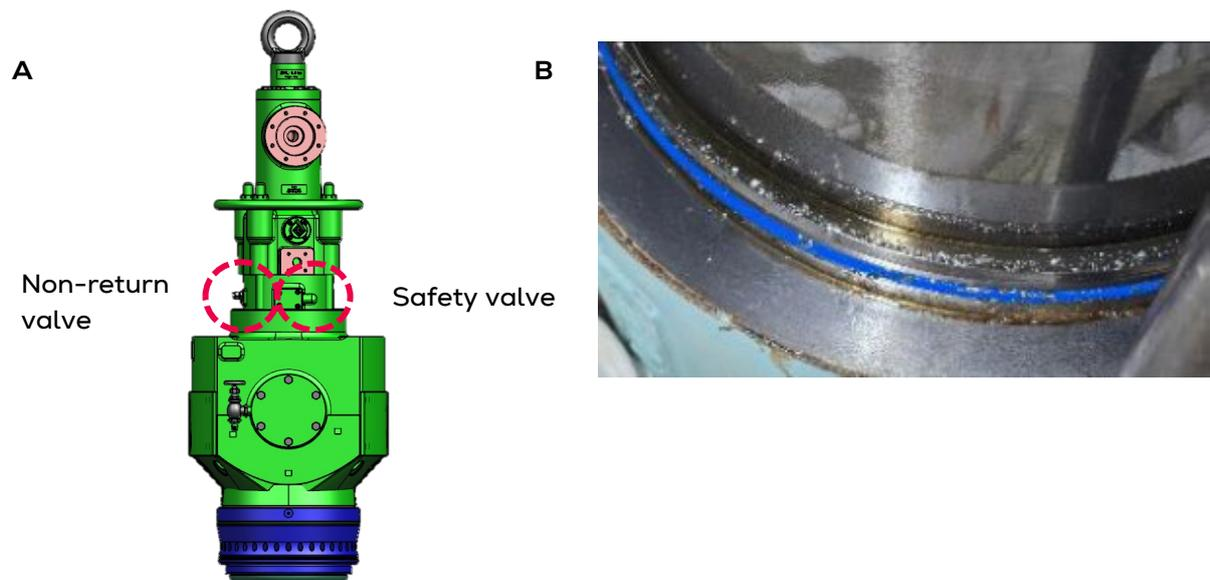

Fig. 3: a) Non-return valve and safety valve and b) Mating area between oil and air cylinders
4. Air cylinder (non-return valve and safety valve) (Table 5, Fig. 3)